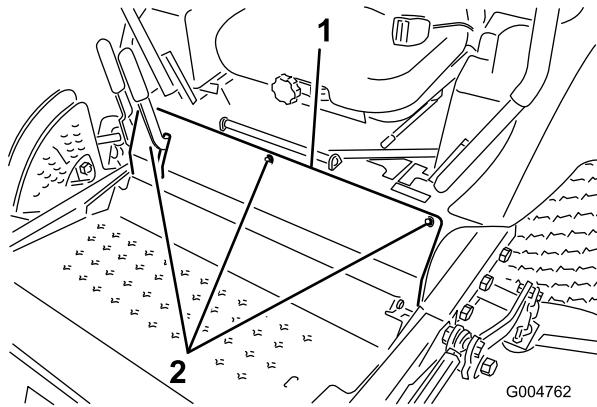

Figure 65
3. Remove the bolts securing the front panel and remove the panel (Figure 65).